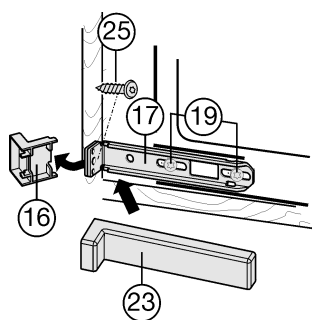

Fig. 18
- ▶ Loosen the screws *Fig. 18 (19)* a little.
- ▶ Tightly screw the bottom mounting bracket *Fig. 18 (17)* to the unit wall using Spax screw *Fig. 18 (25)*  $\varnothing 4 \times 19$ .
- ▶ Break off the projecting end of the cover *Fig. 18 (16)*. It is no longer required.
- ▶ Tighten the screws *Fig. 18 (19)*.
- ▶ Put the cover *Fig. 18 (23)* on the bottom mounting bracket *Fig. 18 (17)*.